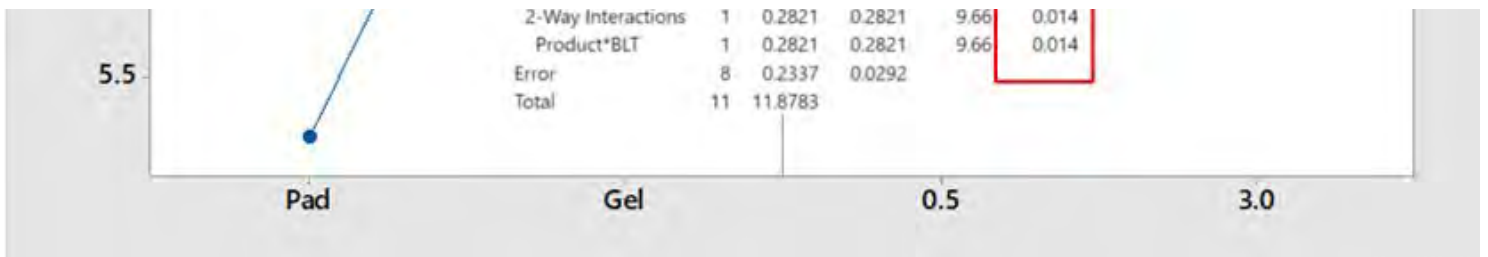

Figure 8. DoE analysis for effective TC.
**Effective thermal conductivity analysis.** Effective TC was calculated using Eq. 3 with the measured TIM thickness as described earlier. Effective TC depends not only on the bulk TC of the sample but also on the contact resistance. The trends observed in effective TC are similar to TI, as predicted by the hypothesis. The result from the MiniTab analysis is presented in **FIGURE 8**.
This study further demonstrates that by mechanically pushing the air out of the interface, thermal performance can be improved. The practical aspect of this strategy must be considered, however. Most gap pads cannot be compressed more than 40-50% of the original thickness. This is demonstrated in Figure 8 where excess force destroys the sample. This will create high risk in real applications.